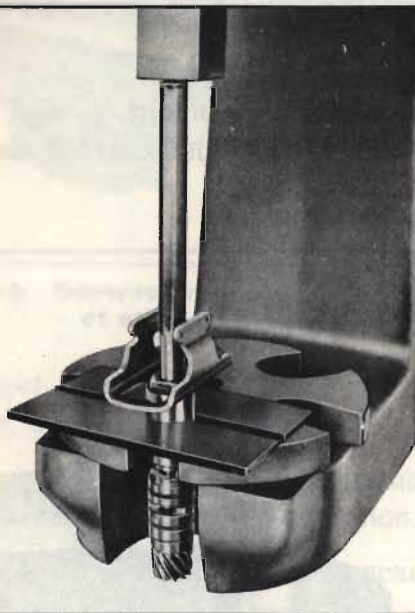

Fig. 11. Pressing gear out of sleeve
2. Install two 3/16" plates in the exhaust slots of the governor. Place the assembly in a press. Using a long punch, force the gear out of the sleeve (Fig. 11).